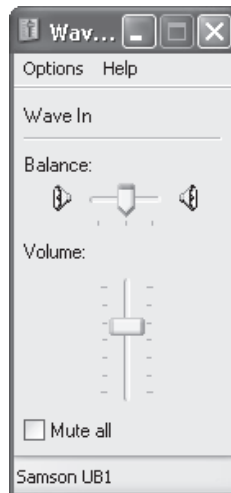

Figure 5
6. The internal, computer controlled gain can then be set by pressing the Volume button (figure 5).